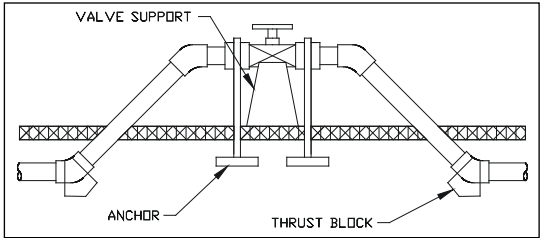

Figure 10- Above ground valve support
- Thrust blocks for above ground installation must be constructed to support fittings listed in Figures 10 & 11.